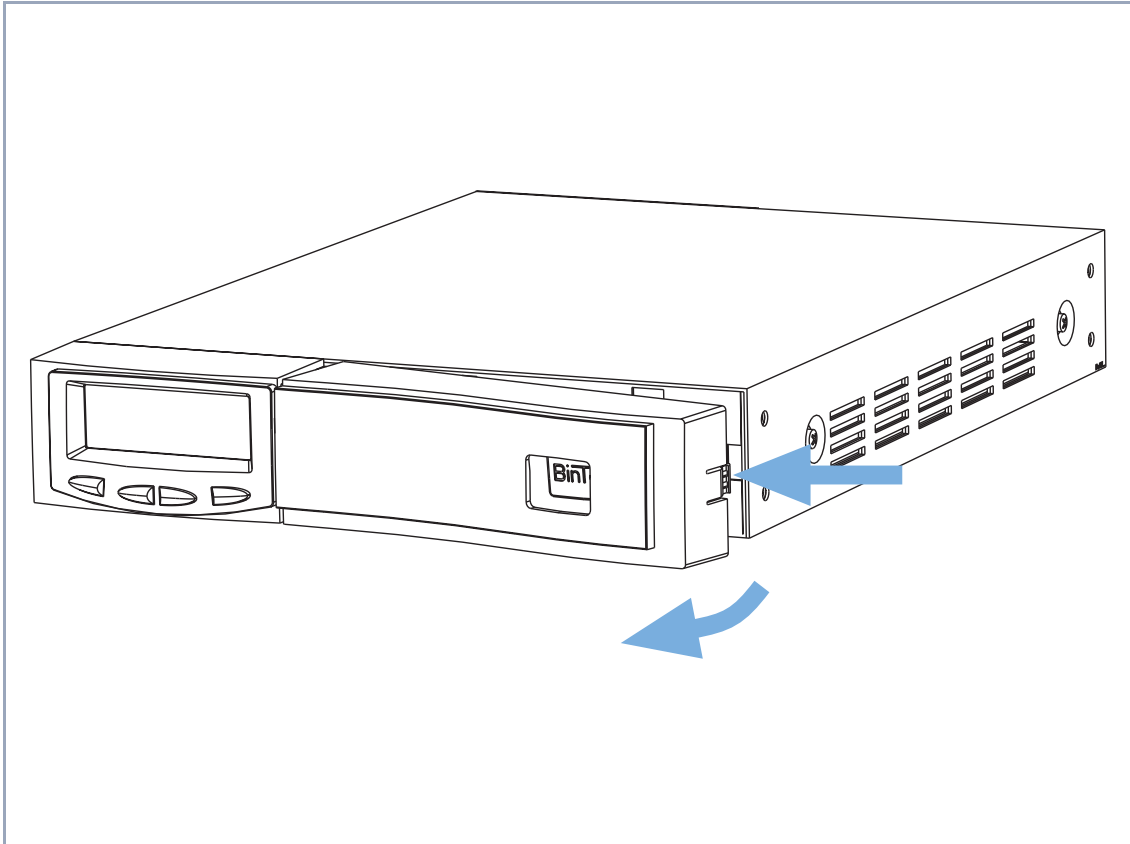

Figure 3-7: Removing the plastic cover
- Step 1** ➤ Remove the plastic cover of **X4000** from the metal housing. This is done by pressing the edge of the housing on the narrow side of the front panel (marked with a grip) slightly towards the display, see Figure 3-7, page 46.